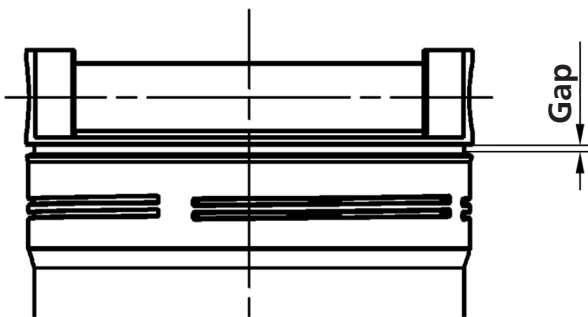

Fig. 3: Gap at the filter cover
- › Manually turn the cover until it stops; a gap between cover and housing may remain visible (see Figure 3).